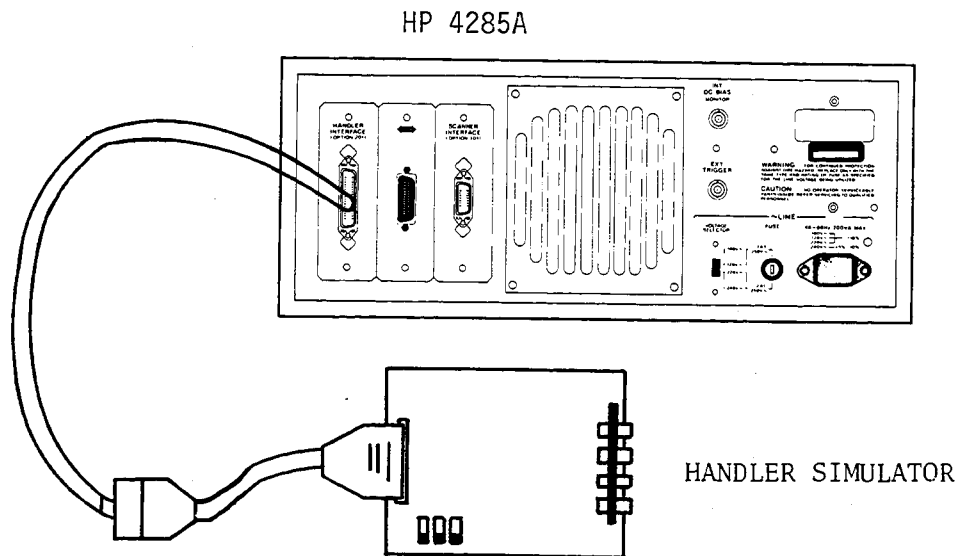

Figure 1-25. Handler Interface Function Test Set up
7. Connect the handler interface connector on the HP 4285A's rear panel with the handler simulator as shown in Figure 1-25.